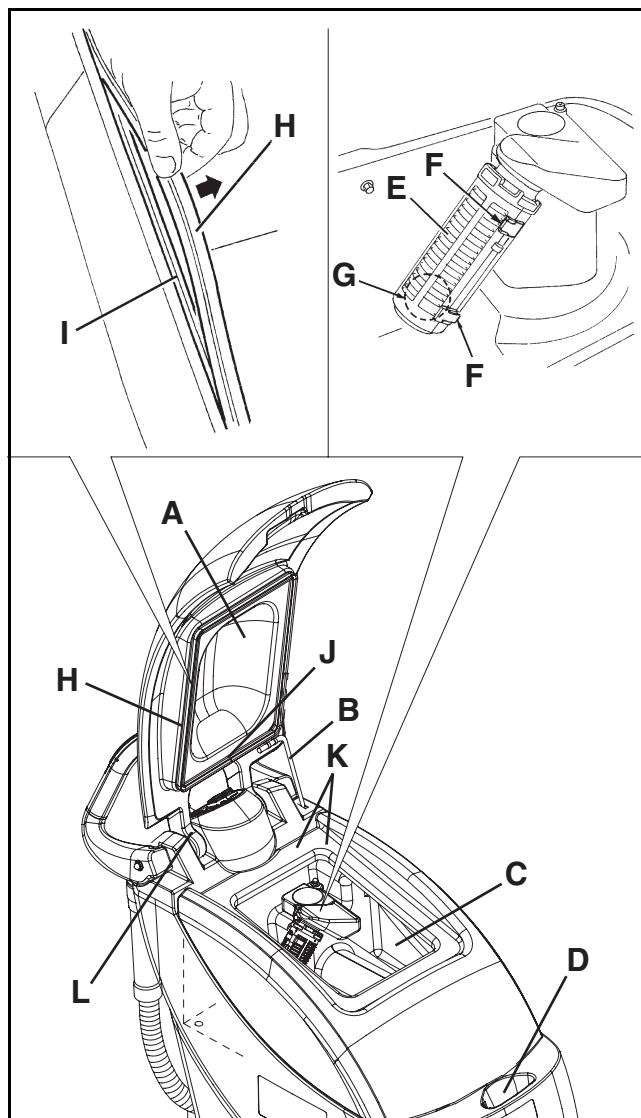

Figure 27
3. Lift the cover (A, Fig. 27) and apply the cover stand (B), then clean and wash the cover, the tanks (C and D) and the vacuum grid (E) with clean water.
4. If necessary, release the retainers (F, Fig. 27), open the vacuum grid (E), remove the float (G), then carefully clean and reinstall them.
5. Check the cover sealing gasket (H, Fig. 27) of the recovery tank for wear.
The gasket (H, Fig. 27) creates vacuum in the tank, which is necessary for the vacuuming of the recovery water.
If necessary, replace the gasket (H, Fig. 27) after removing it from the housing (I).
When reassembling the new gasket, install the joint (J) in the central area, as shown in Fig. 27.
6. Check the gasket (H, Fig. 27) seating surface (K) for integrity and sealing capabilities.
7. Check the vent hole (L, Fig. 27). If clogged, clean it.
The hole (L, Fig. 27) compensates the air in the cover interspaces, thus allowing the creation of vacuum in the recovery tank.
8. Remove the cover stand (B, Fig. 27) and close the cover (A).